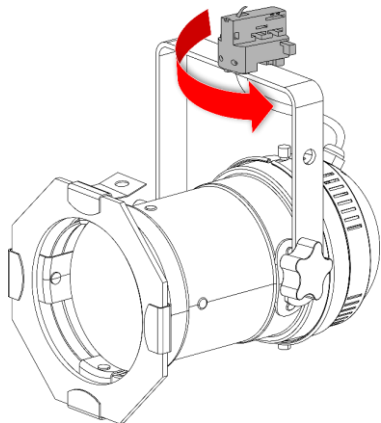
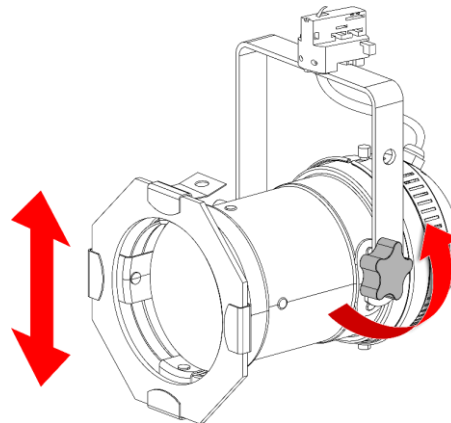

Fig. 13
Fig. 14
- 01) Pivot the device around the **track adapter (01)** to adjust the direction of the beam (see Fig. 13).
- 02) Turn the **adjustment screw (07)** counterclockwise to release it.
- 03) Tilt the device at the desired angle (see Fig. 14).
- 04) Turn the **adjustment screw (07)** clockwise to tighten it. Make sure that the device cannot move freely after the **adjustment screw (07)** is tightened.